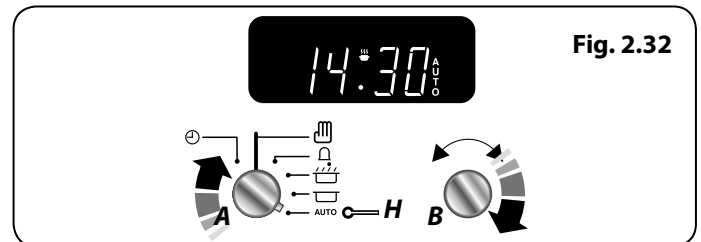

Fig. 2.32
5. Turn the **Timer (A)** knob to the **Auto (H)** setting (**Fig. 2.32**). If the display shows the current time and the word 'AUTO' the Multifunction Oven is set to turn on and off.